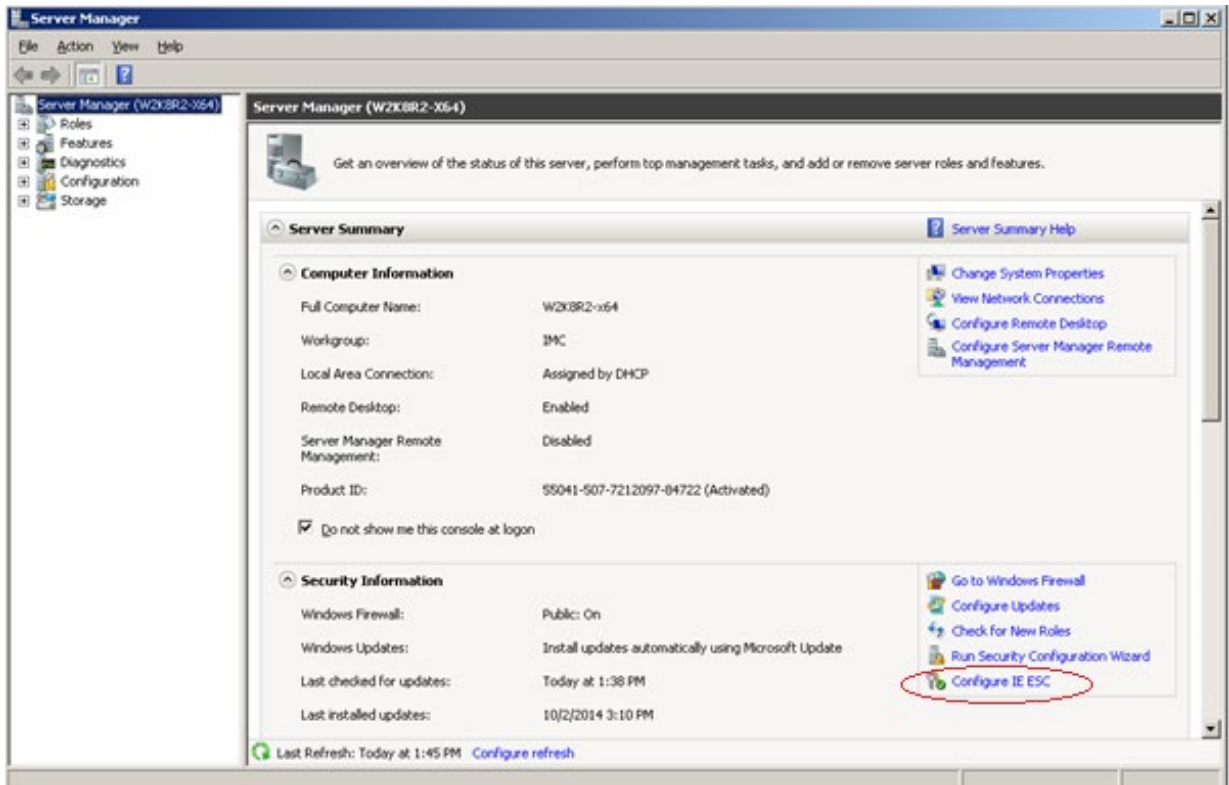

Figure 107
- A window similar to that shown in Figure 107 below is displayed (Windows 2008 shown):
3. In the displayed Server Manager window, select **Configure IE ESC**. See Figure 107 above.